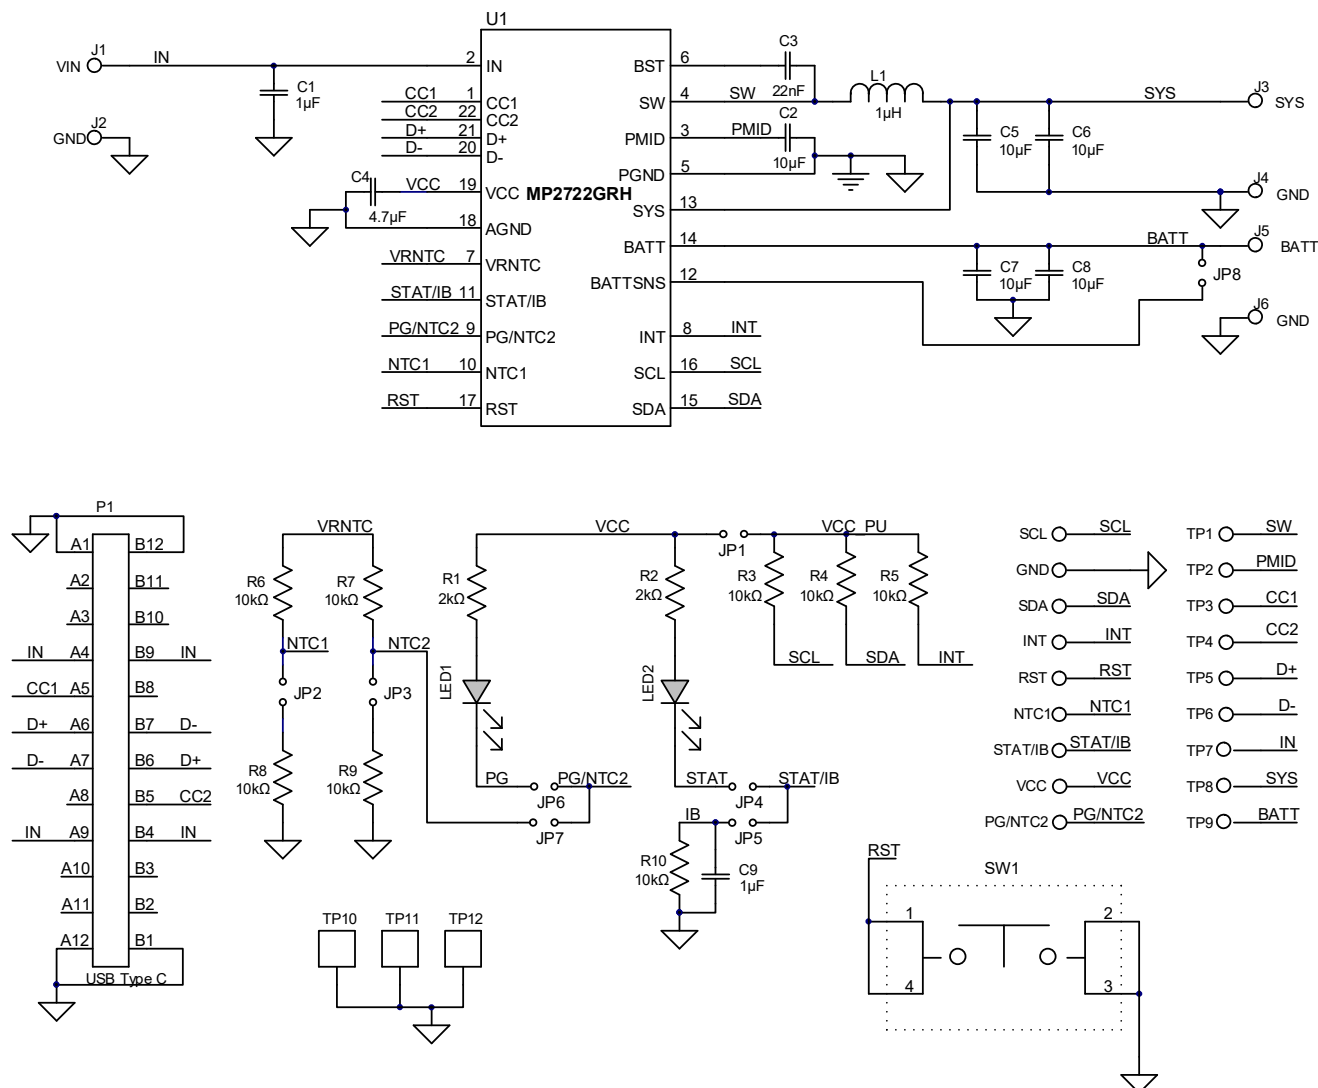

Figure 3: MP2722 Evaluation Software
7. Launch the MP2722 evaluation software. Figure 3 shows the GUI software's main window.
1. Ensure that all the connections are successful, including the connection between the USB-to-I²C communication interface and the EV2722-RH-00A. Successful connections are indicated in green on the lower-left side of the GUI window (see Figure 3 on page 3). The program is ready to be run once all of the connections are successful.